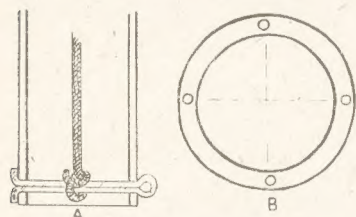
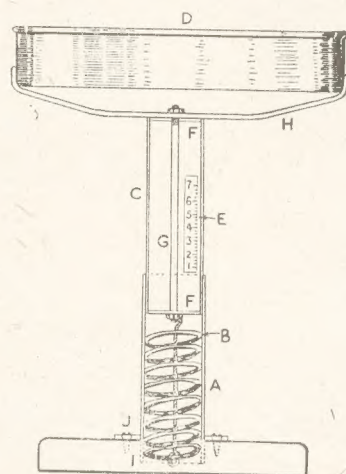

Fig. 2—The securing cord (A) and (B) pattern of collar for base
Fig. 1—Sectional view of parts and construction
Assuming that the reader has obtained a spring of the above dimensions, the lower tube which is of either brass or copper, must be 2ins. in internal diameter by 7ins. length. The inside must be nicely polished smooth and a very light smear of oil applied. The upper tube is of similar metal and must be 2ins. external diameter by 8ins. length. Two end-pieces, Fig. 1 (F), are soldered into place and the scale-pan carrier secured into position by a long bolt (G) which passes down the length of the tube and is bolted through and on the end-pieces.
Near the bottom of the larger tube is drilled two small holes and a split-pin passed through and secured by opening and turning the ends over—Fig. 2 (A). A thin cord or small chain is then fastened under the bolt (G), the spring inserted in tube (A) then the smaller tube (C) inserted inside the larger tube and pushed down until the spring is slightly compressed.
The stand should be made from a fairly substantial piece of wood. A hole is drilled nearly through of the same external diameter as that of the lower tube (I). The tube is then pressed in as far as possible and securely located in position by a collar or ring. The collar is made from brass ¼in. thick to the pattern as shown in Fig. 2 (B). This is slipped over and down the tube and is tightly screwed into the baseboard with four screws, Fig. 1 (J). It is then sweated with solder around the tube, thus making a firm and stable assembly.
The T handle, Fig. 1, generally breaks off at the join with the shaft. It can be made as good as new by first cutting off all rotted or broken parts and then cutting down to a shoulder to fit tightly in the top bar and then to drive in a good wedge. It might be that only a nicely fitted wedge was necessary—cut this from hard wood and do not make the taper too sharp. All wedges should be glued before tapping home to prevent any possibility of them working loose.